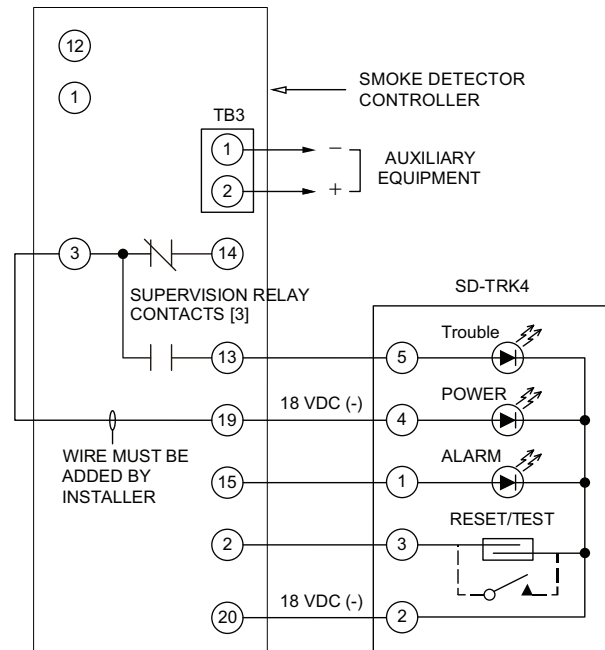

Fig. 36 — Remote Test/Reset Station Connections
The test/reset station dirty sensor test checks the test/reset station's ability to initiate a sensor dirty test and indicate the results. It must be wired to the controller as shown in Fig. 36 and configured to operate the controller's supervision relay. For more information, see "Changing the Dirty Sensor Test."
1. Verify that the remote test/station is wired as shown in Fig. 36. Repair or replace loose or missing wiring.